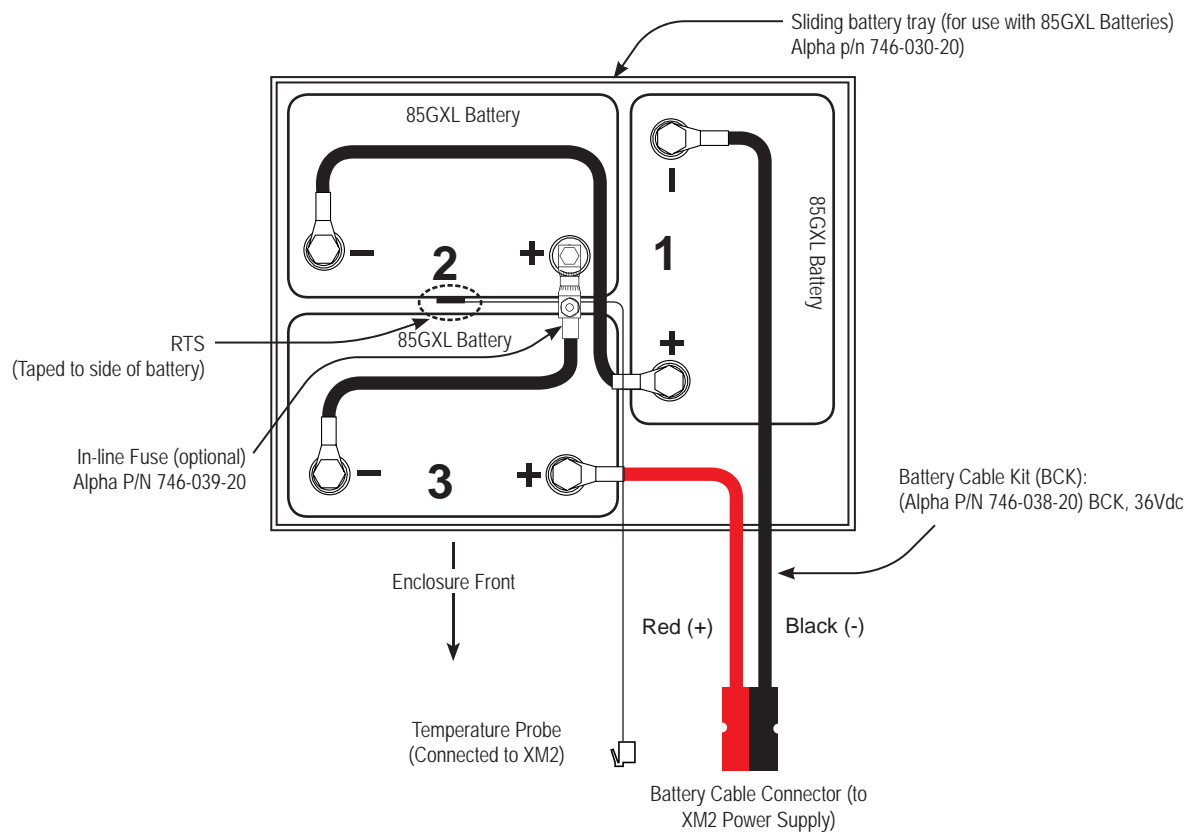

Fig. 2-16, NPS Battery Wiring Diagram with 85GXL battery string
1. Place the batteries on the enclosure's battery slide tray or battery shelf. Refer to Fig. 2-16 for correct battery arrangement. Position the batteries to allow maximum ventilation space between the batteries.